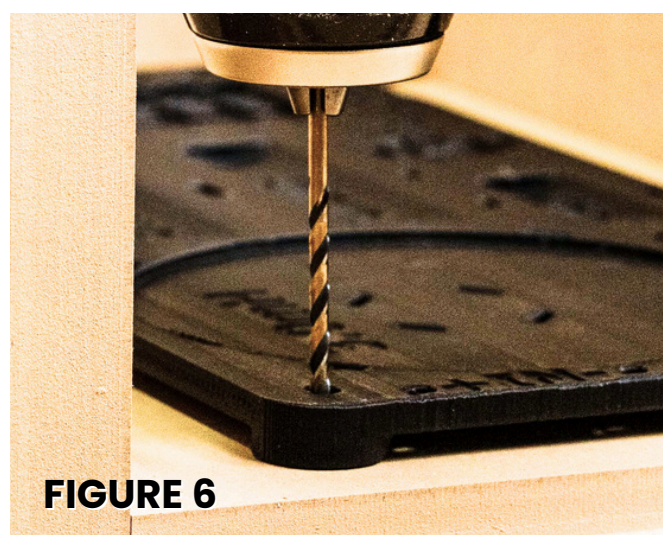

FIGURE 6
5. (OPTIONAL) Before assembly, drill pilot holes for mounting the crossover board using the board as a template. (figure 6)